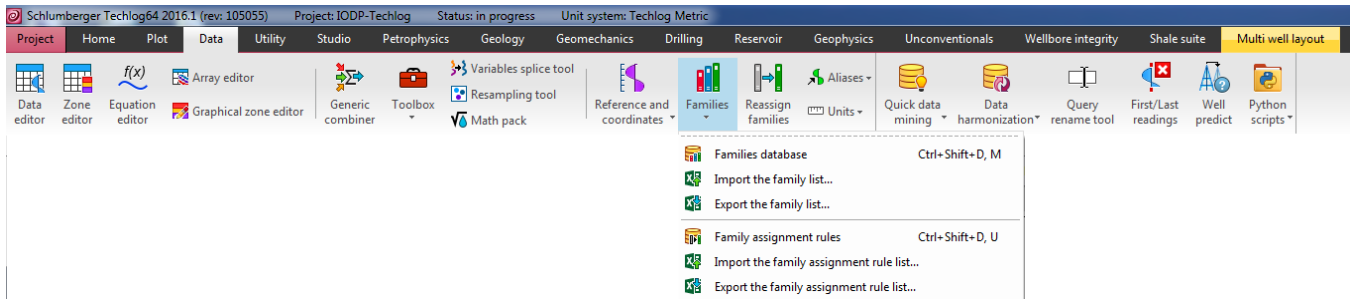

Figure 10: Data menu and toolbar, showing the dropdown list for data Families.
1. Click on the Data menu tab (Fig. 10)